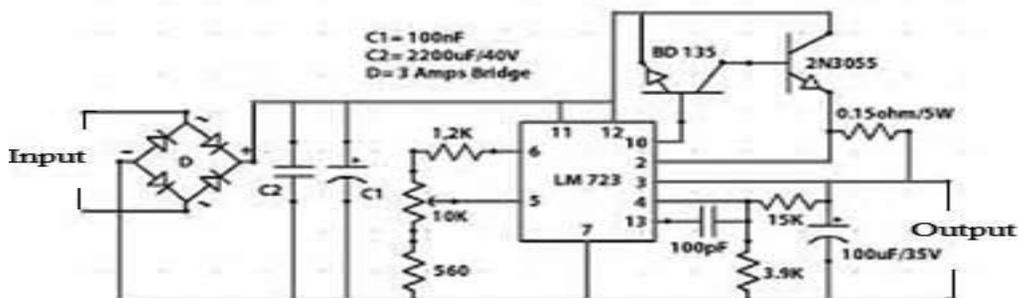

Figure 26.3: Circuit diagram of IC723
1. Connect the circuit as in figure 26.3